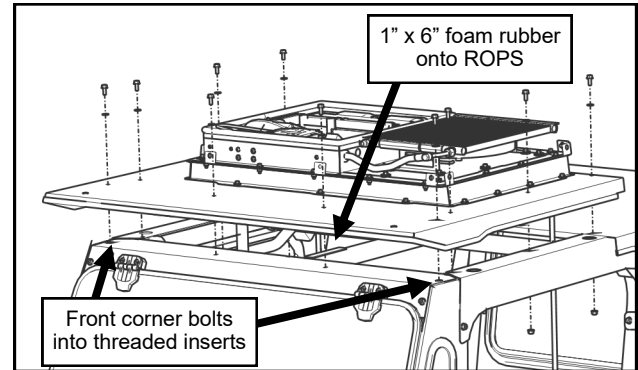

Fig. 5.1 (Install A/C Roof)
- 5.1** Apply the supplied 1" x 6" strip of foam rubber onto the top of the ROPS, on the center bar just behind the front cross bar. See Figure 5.1.
- 5.2** With an assistant, place the roof with A/C assembly onto the top of the cab and align to the holes in the cab. With a plastic washer on each bolt, insert 5/16 x 3/4" bolts through the roof into the threaded inserts in the A-pillars first, then through the rest of the holes in the roof with nuts underneath, excluding the three holes at the rear of the A/C assembly. Leave bolts loose. See Figure 5.1.